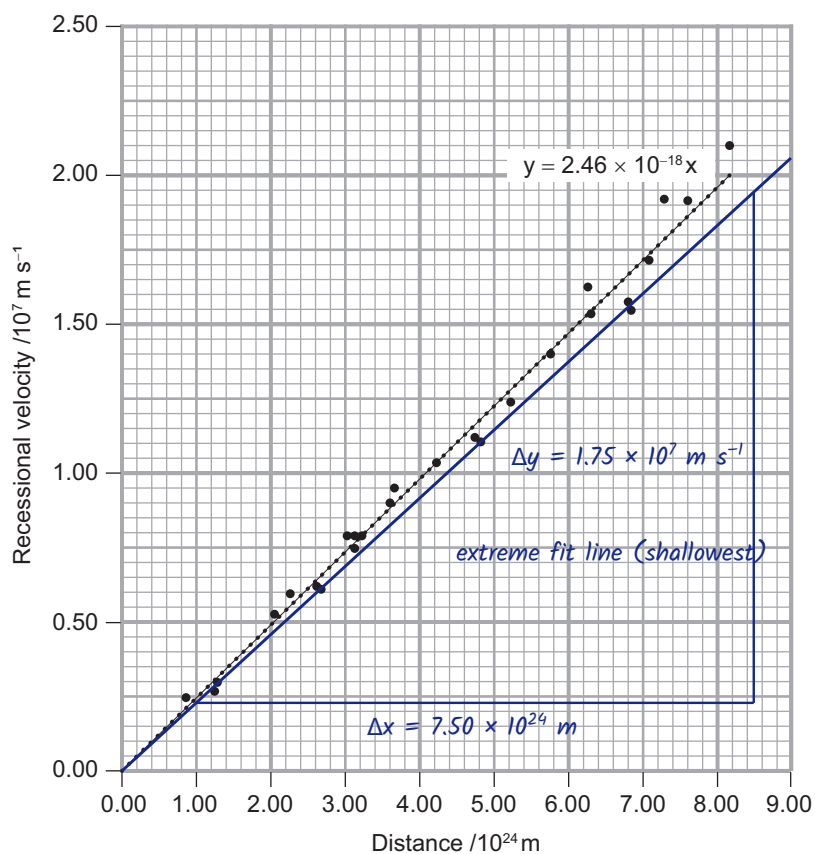

Fig. 1.1
A plot of the recessional velocity and its distance from Earth is shown in **Fig. 1.1**.
- (b) (i) On **Fig. 1.1**, draw an extreme fit line that would allow you to estimate the maximum age of the universe. [2]
My extreme fit line on Fig. 1.1 is the shallowest line through the origin that still fits the points, so it gives the maximum age.